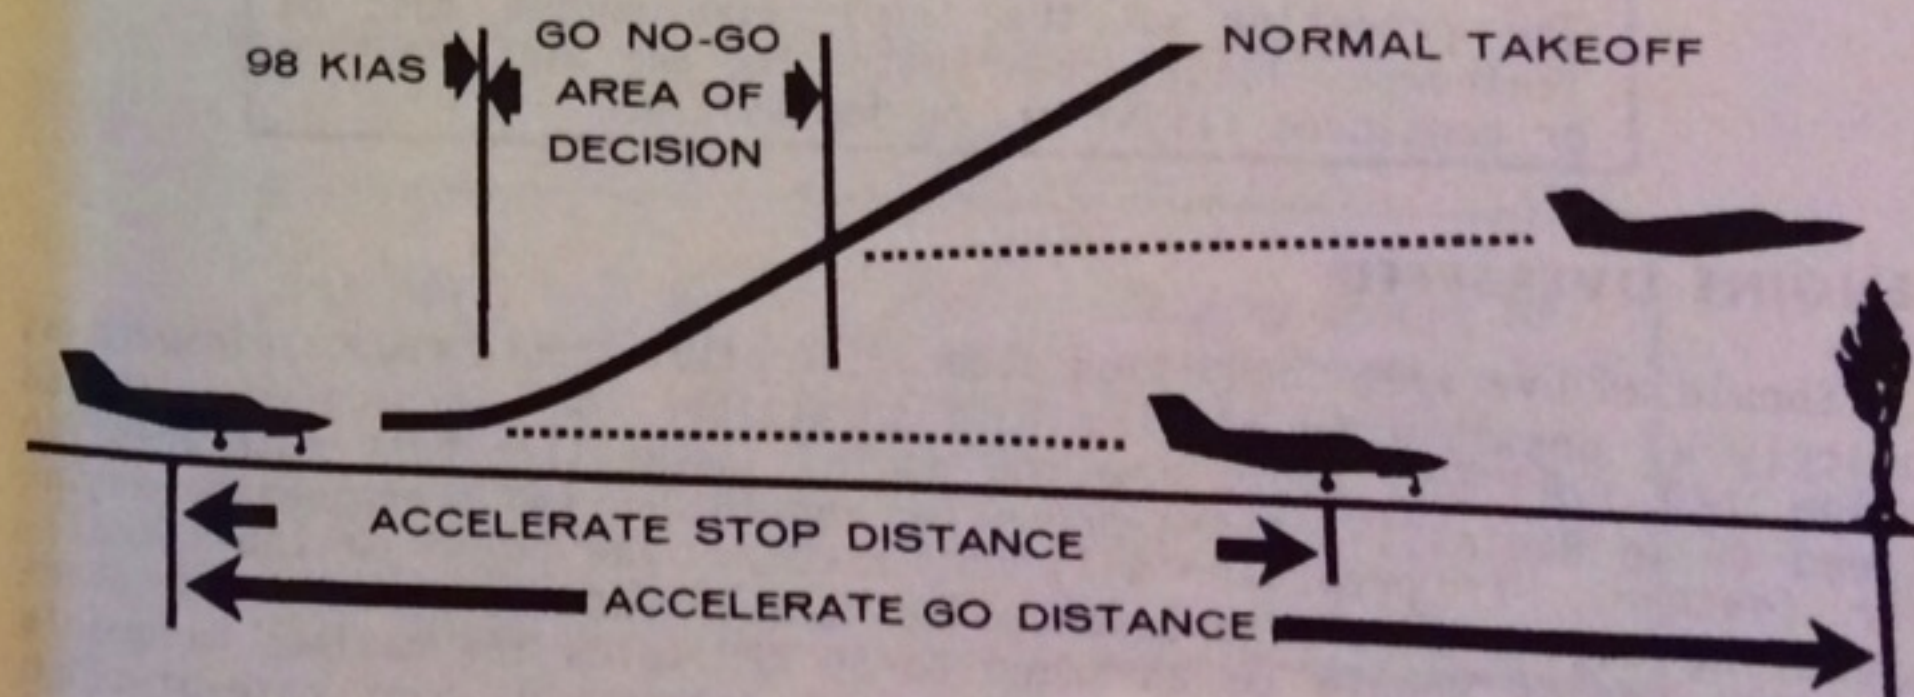

Figure 3-2
Fortunately, the airplane accelerates through this "area of decision" in just a few seconds. However, to make an intelligent decision in this type of emergency, one must consider the field length, obstruction height, field elevation, air temperature, headwind, and takeoff weight. The flight paths illustrated in Figure 3-2 indicate that the "go no-go area of decision" is bounded by: (1) the point at which 98 KIAS is reached and (2) the point where the obstruction altitude is reached. An engine failure in this area requires an immediate decision. Beyond this area, the airplane, within the limitations of single-engine climb performance shown in Section 5, may be maneuvered to a landing back at the airport.